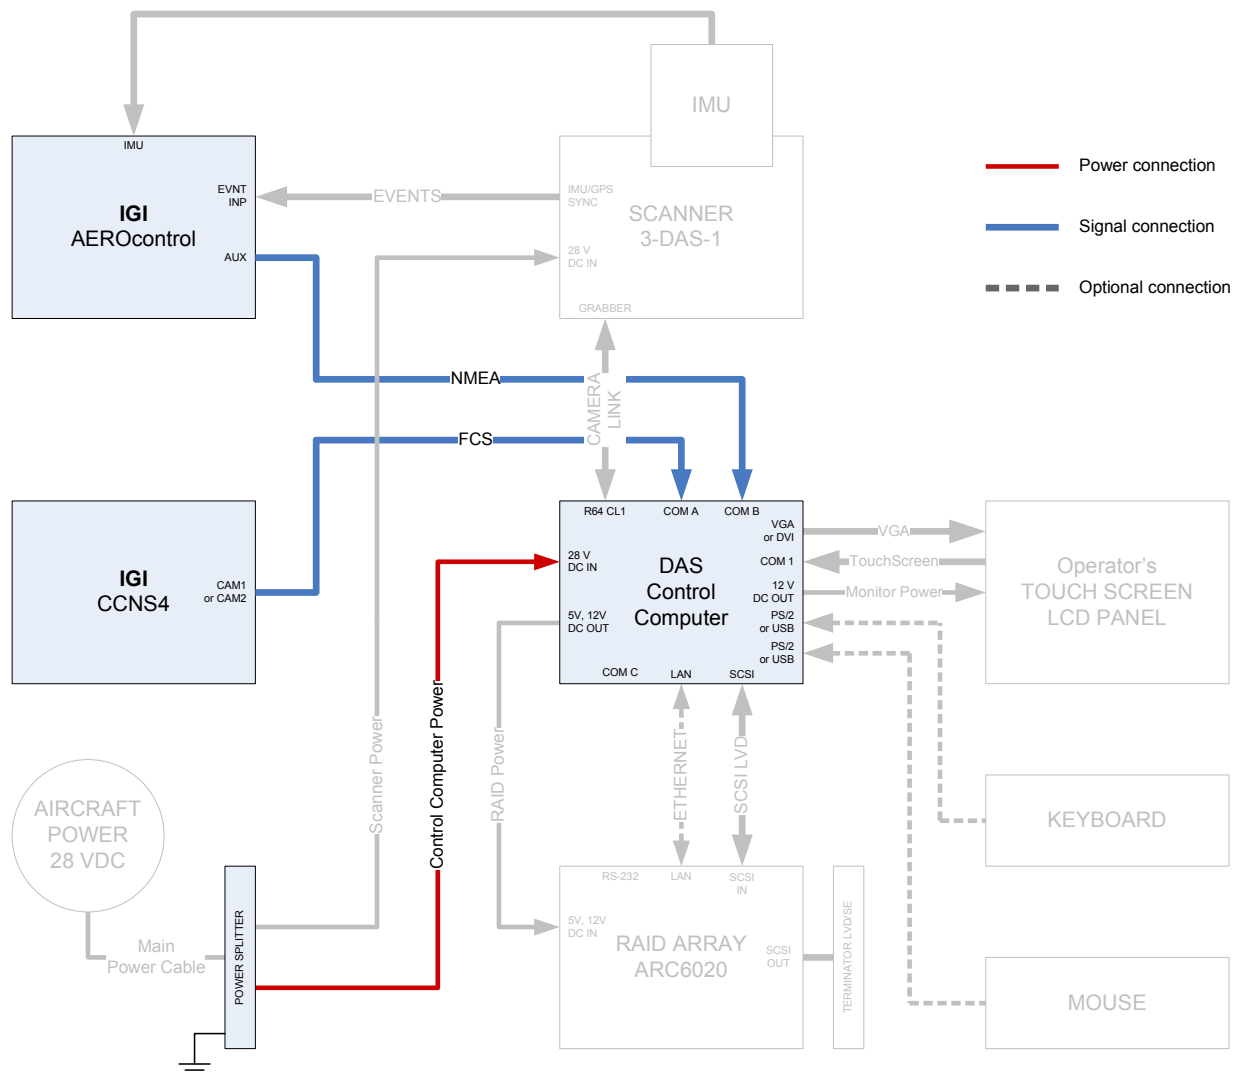

Figure 1.10: Connection of control computer.
- Connect “Control Computer Power” cable to “28 V DC IN” input of the computer. (Figure 1.10)